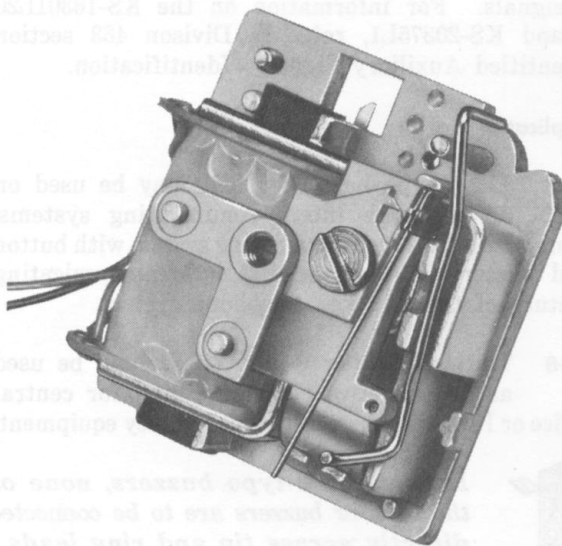

Fig. 3—9A Buzzer With Cover (64A Gong) Removed
2.10 The 9-type buzzer (Fig. 3, 4, and 5) is composed of a G1C ringer motor, P-type armature, and 64A plastic gong (cover).